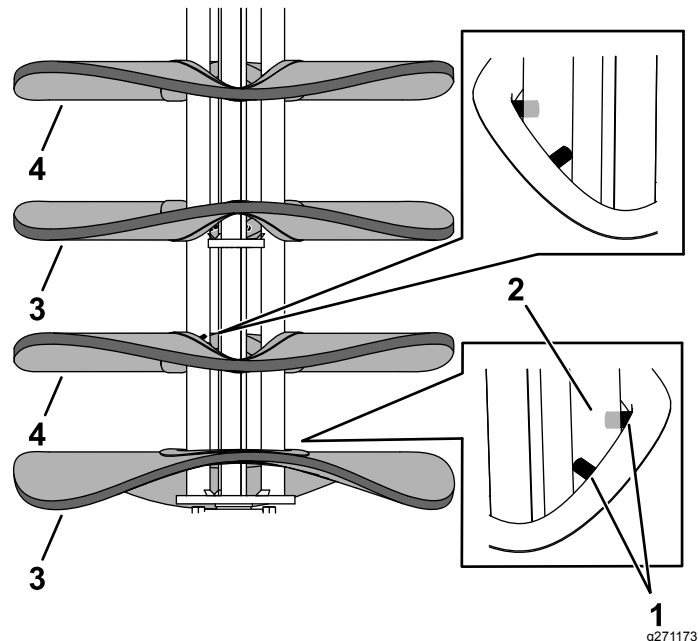

Figure 14
- Stand the broom core on end. Starting with a polypropylene brush, install new brushes, ensuring the prongs straddle the rods of the core (Figure 14). Alternate between polypropylene and wire brushes, with each consecutive brush 180° apart.